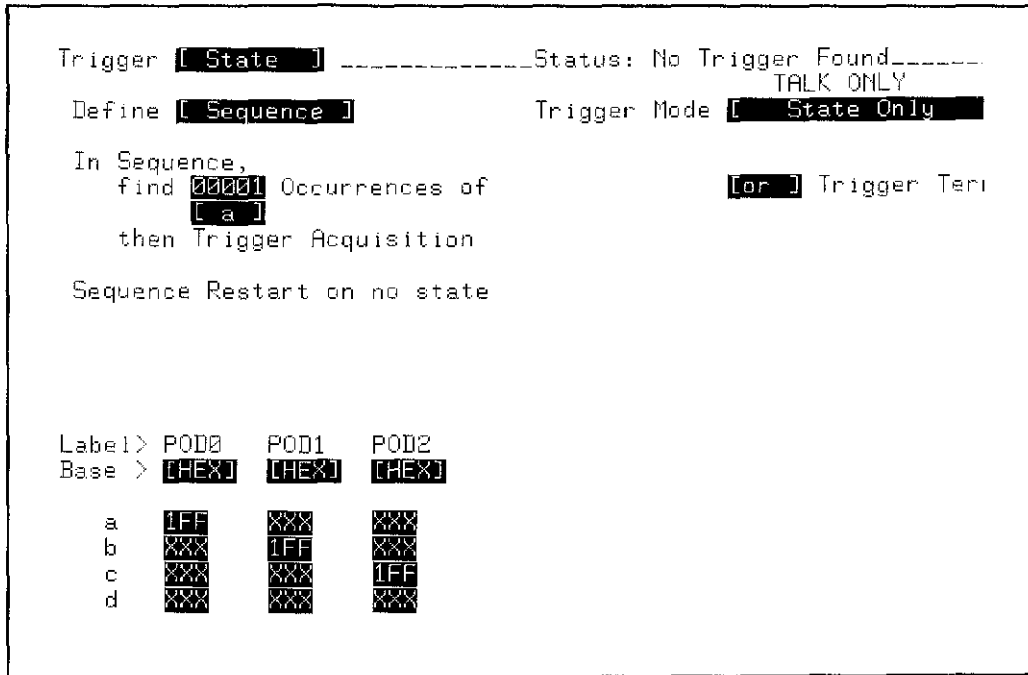

Figure 3-45. TRIGGER State / Define [Sequence] Menu
4. Configure the TRIGGER State / Define [Sequence] menu as shown in figure 3-45.
15. Reconfigure the TRIGGER State/Define [Sequence] menu shown in figure 3-45 with "Occurrences of [ b ]". Disconnect POD 0 and connect POD 1. Repeat steps 12 through 14.
16. Reconfigure the TRIGGER State/Define [Sequence] menu shown in figure 3-45 with "Occurrences of [ c ]". Disconnect POD 1 and connect POD 2. Repeat steps 12 and 13.
21. Reconfigure the TRIGGER State/Define [Sequence] menu in figure 3-45 with "Occurrences of [ a ]".
26. Reconfigure the TRIGGER State/Define [Sequence] menu in figure 3-45 with "Occurrences of [ b ]". Replace POD 0 with POD 1 and repeat steps 23 through 25.
27. Reconfigure the TRIGGER State/Define [Sequence] menu in figure 3-45 with "Occurrences of [ c ]". Replace POD 1 with POD 2 and repeat steps 23 and 24.